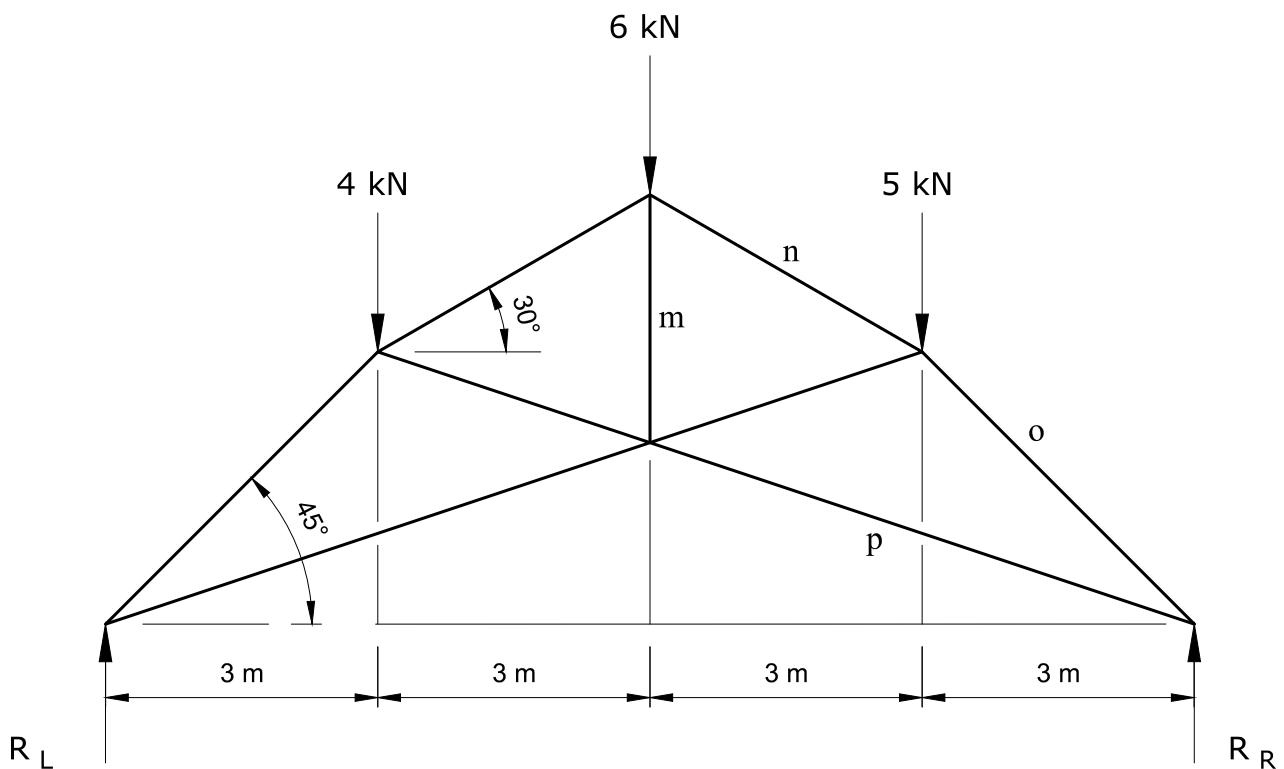

Figure 6
A drawing of a roof truss, resting on two simple supports, is shown in Figure 6. Four members of the truss have been labeled m, n, o, and p.
- a. copy Figure 6 by using the indicated scale; (2)
- b. label the spaces by applying Bow's notation; (1)
- c. evaluate graphically the reactions R_L and R_R (use a load line scale of 10 mm rep 1 kN); (6)
- d. find the forces acting in members m, n, o, and p, distinguishing between struts and ties; (9)
- e. tabulate your answers. (2)